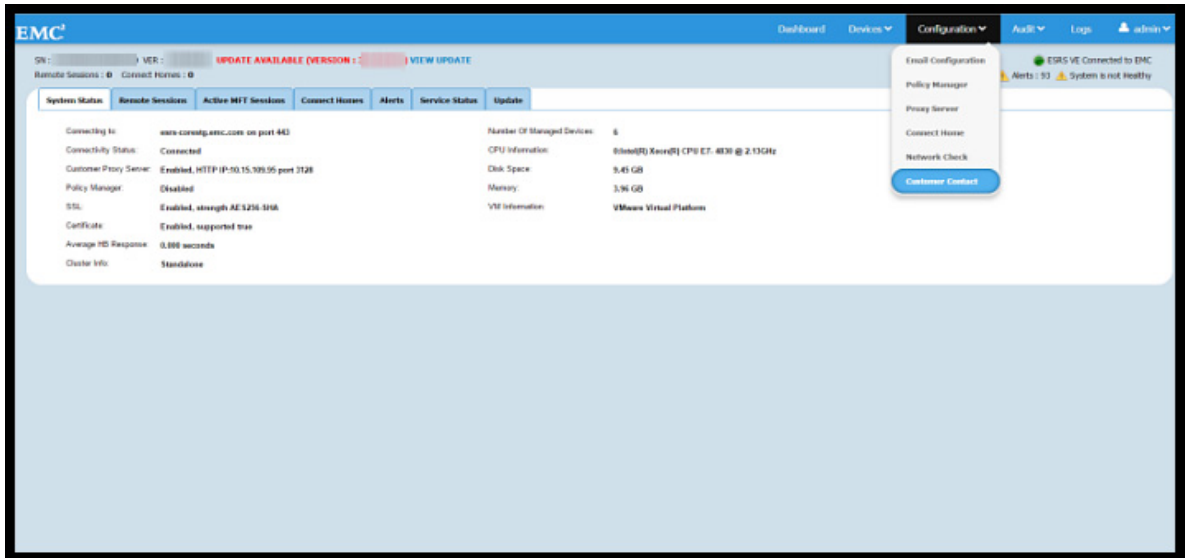

Figure 80 Accessing Configuration > Customer Contact
1. Navigate to the **Configuration** tab and click on the **Customer Contact** link, as shown in Figure 80 on page 58. The system retrieves the most current contact details from ServiceLink.